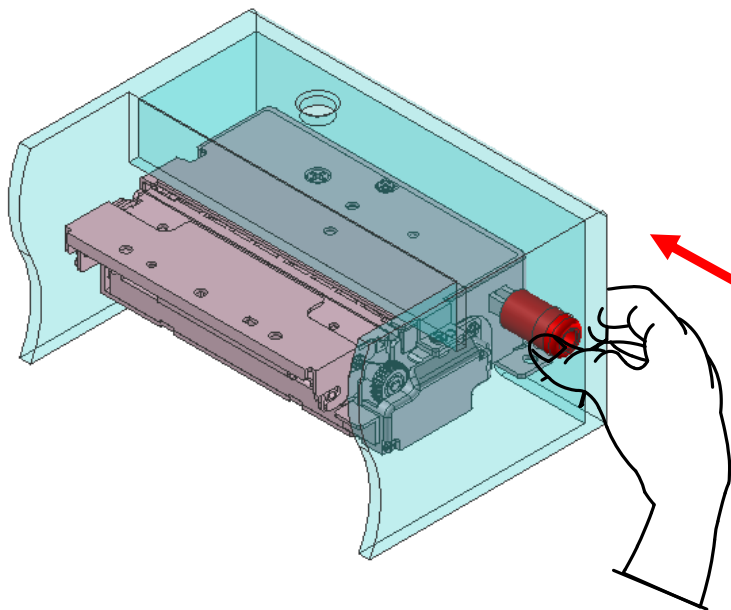

Fig 12-6 Example of push button lever operation
- When the cutter jam occurs, press the push button lever 3~5 times in the direction of the arrow as shown in Fig 12-6 to clear the cutter jam. When the cutter jam is cleared, pressing the button will cause idle spinning. In this case stop pressing the button. Operating load of the push button is about 2.5 kgf.